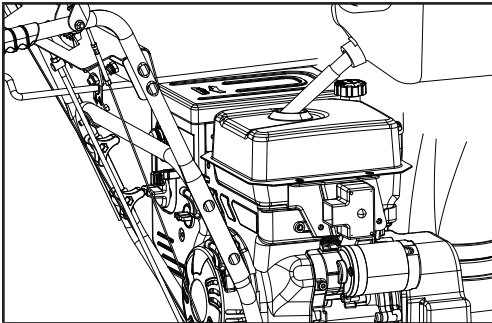

Figure 17
6. Remove the fuel tank cap (Fig. 17).